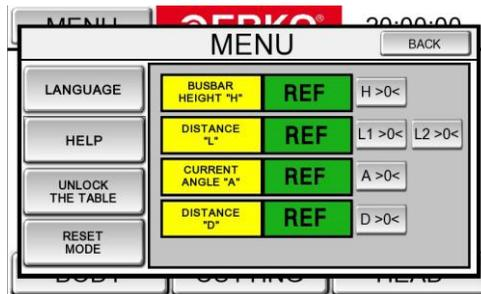

Fig. 44
- The device proceeds to resetting mode (Fig.44)